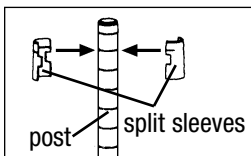

Figure 2a
A. Stand the post/frame assembly upright, and snap the split sleeves onto each post at the 1st groove from the top (see *Figure 2a*).